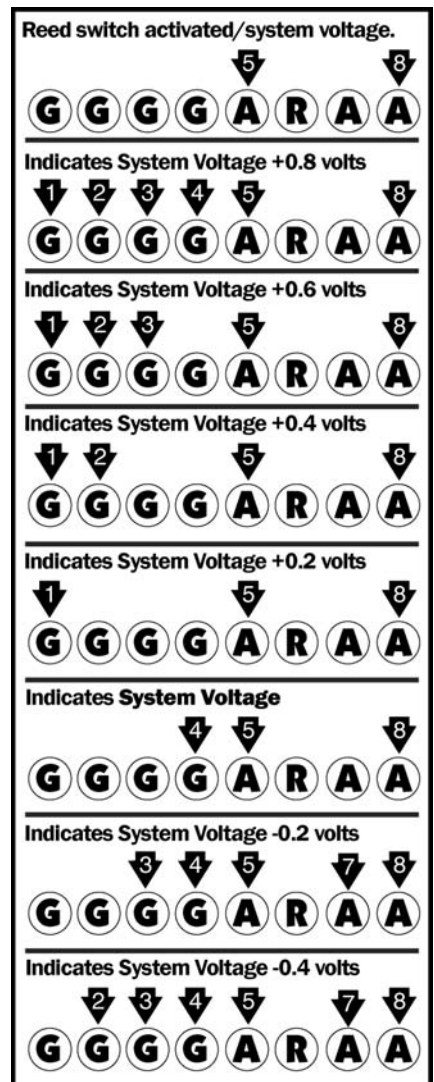

Figure 15 - LED display indicating advanced voltage adjustment.
1. When the LED indicates entry into the system voltage mode, indicated by the #8 amber light, ACTIVATE-HOLD the switch with your magnetic screwdriver. The display will begin to cycle up through the values shown in **Figure 15**. NOTE: To reverse scrolling direction, release the switch, wait until the green lights turn off, and re-activate and hold the switch to cycle the opposite direction.